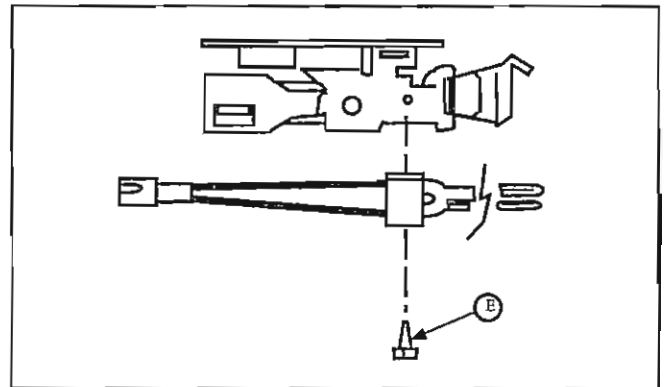

Figure 4-4
5. Remove screw (E) holding broken glo-bar to burner and replace glo-bar (see Figure 4-4).